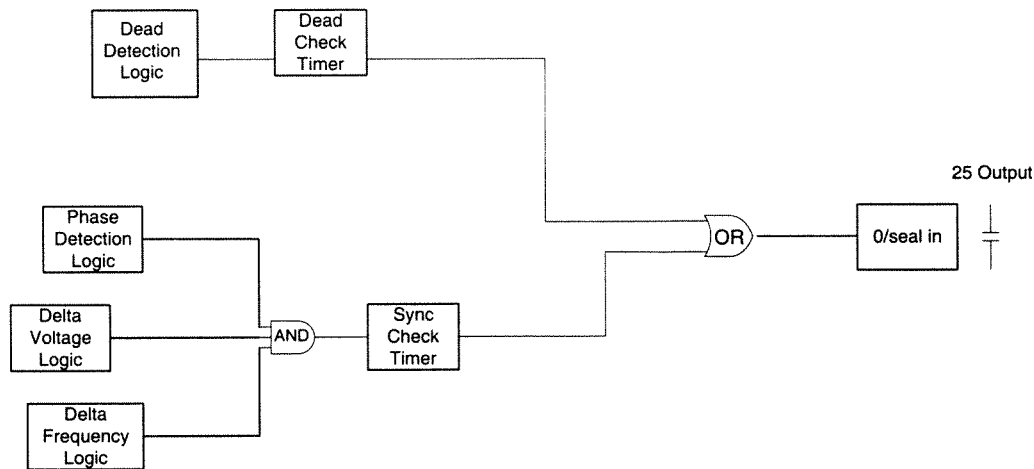

Figure 2-9 Sync Check (25) Function Logic Diagram
are directed to the programmed 25 output relay. The overall logic of the Sync Check (25) function is shown in Figure 2-9.